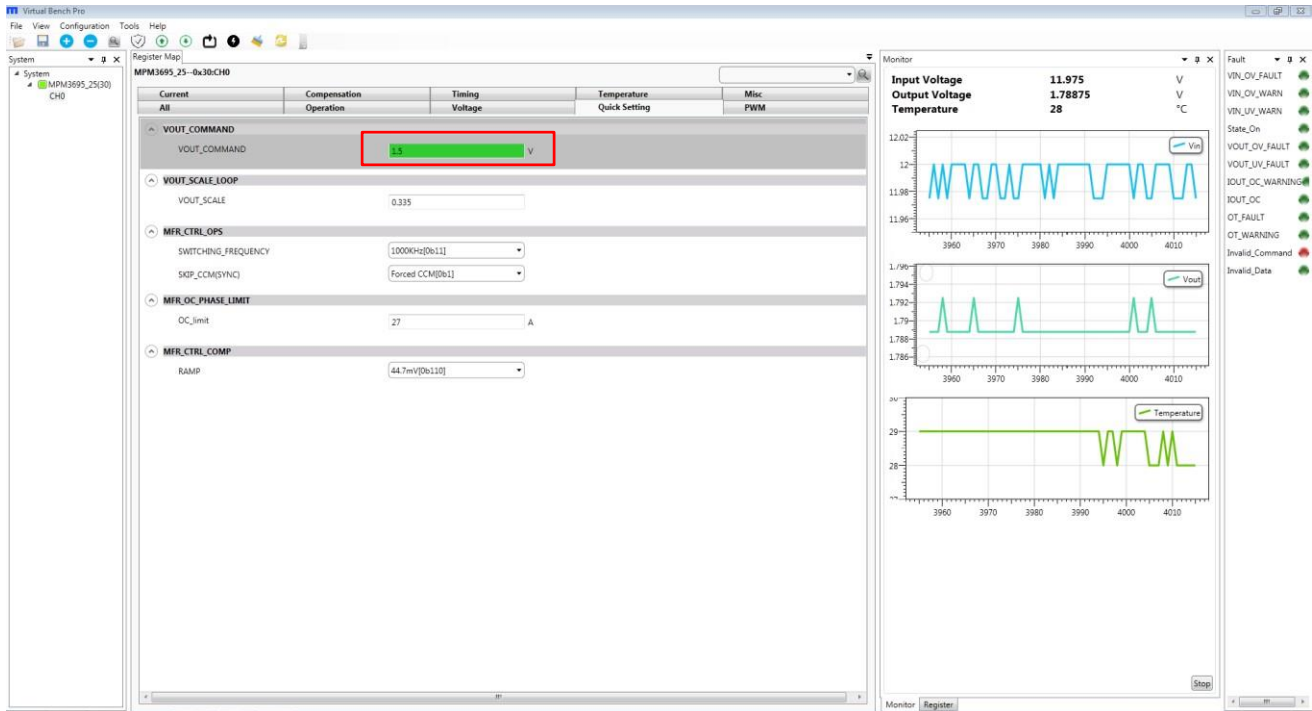

Figure 8: Enter Desired Values in the Register
- Change the register value as desired. A valid input must be entered. Otherwise, an alert will appear, and the entered value will not be accepted. (see Figure 8).